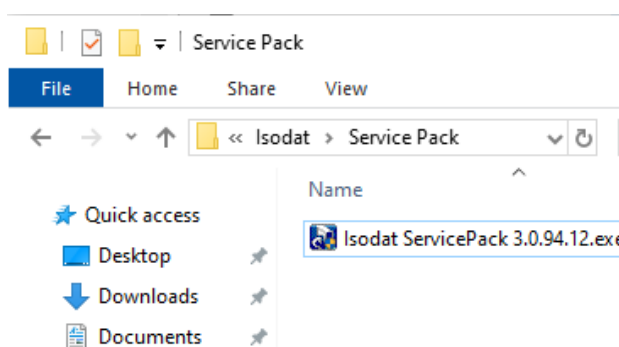

Figure 4-16. Isodat Service Pack
- a. Navigate to the folder containing the Service Pack, see Figure 4-16.